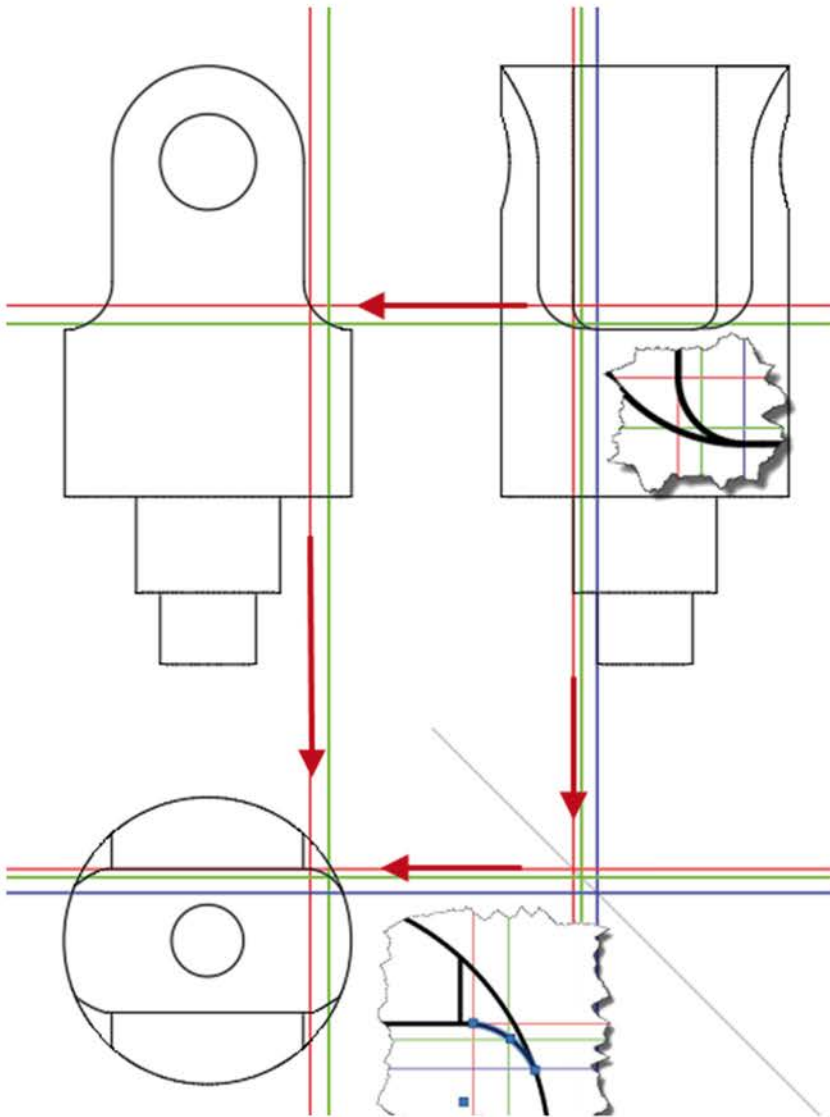

Fig. 8.6 New construction lines for the arcs in the top view
4. Delete or hide the construction lines that are no longer useful and draw new construction lines for the arcs on the **Top View** (Fig. 8.6).